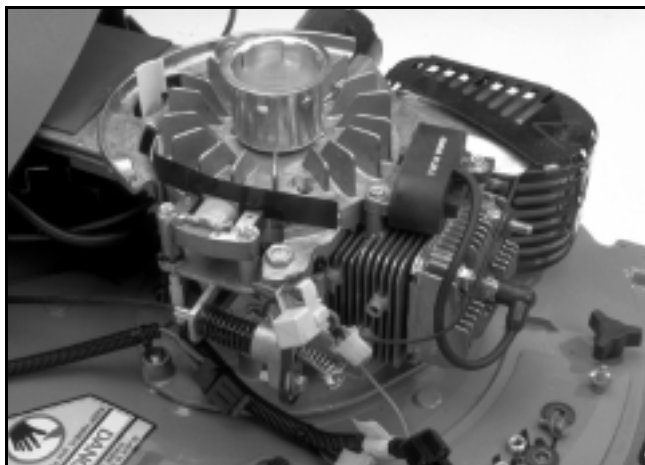

Figure 104
2. If gap is incorrect, loosen the alternator mounting bolts slightly allowing the flywheel magnets to pull alternator against the gauge. Tighten the bolts to 75 in. lbs., and recheck the air gap. (See Figure 104.)